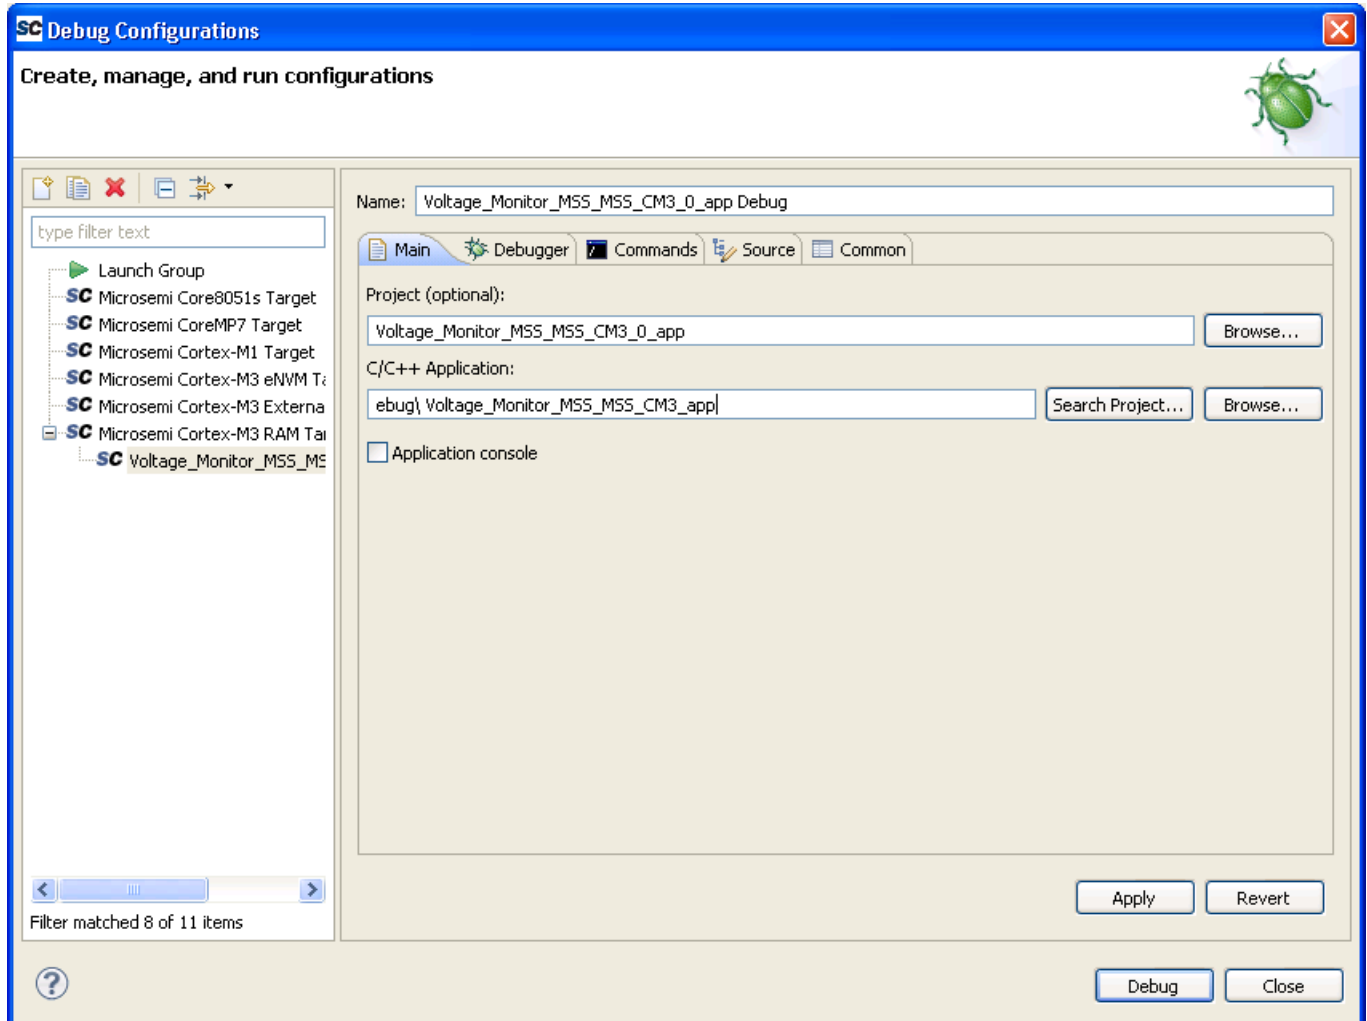

Figure 35 · Debug Window
2. Double clicking on **Microsemi Cortex-M3 RAM target** displays an image similar to Figure 35 . :